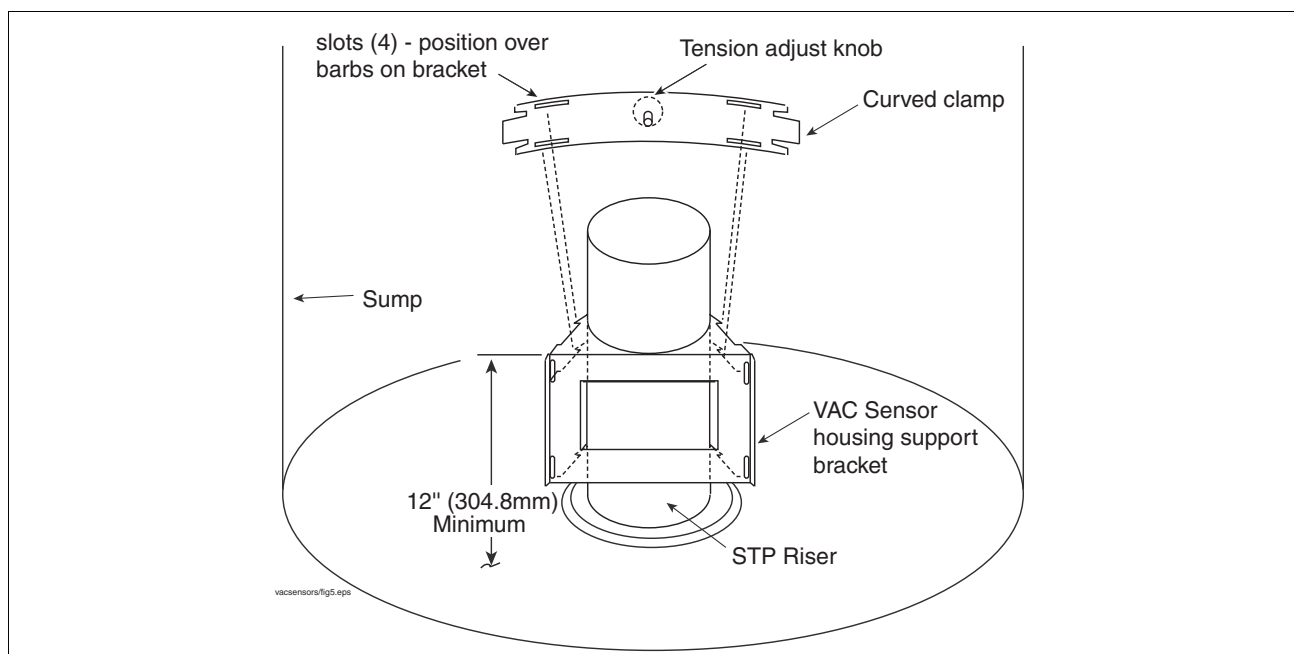

Figure 7. Attaching Vac Sensor housing support bracket
11. Looking at the front of the Vac Sensor housing, insert the elbow in the side vacuum port bushing labeled 'STP Siphon' (on the Vac Sensor cover) in the Vac Sensor closest to the side of the housing. Orient the elbow so that the open half is horizontal and pointing to the other Vac Sensors (see Figure 7). Insert a tee in the same vacuum port in each of the other Vac Sensors. Orient the tees in the horizontal position, except the Vac Sensor closest to the other side of the Vac Sensor housing. Remove this tee and orient it so that one end points toward the other tees and one end points out at you then insert the inlet end into the bushing. Measure and cut a piece of the tubing approximately 1-3/4" (44.5mm) long to connect each of the tees and elbow as
shown in Figure 7. Once the tubing pieces are cut, remove the barbed elbows and tees to push on the tubing pieces, then reinsert this connected assembly back into the Vac Sensor bushings and tighten the nuts.
Get the Vac Sensor housing support bracket and the curved tensioning clamp from the mounting kit. Hold the bracket against the STP riser. Place the curved clamp around the back of the riser and hook the four notches in the clamp over the four barbs in the top of the bracket (see Figure 7). Position the bracket so the top of bracket is at least 12 inches (304.8mm) above the containment sump floor and hand tighten the tension adjust knob on the back of the clamp until the assembly is secure.